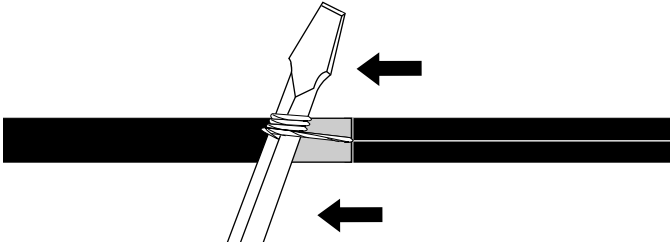

Figure 7
4.9 Pull the rip cord through the sheath to the wrap of tape (Figure 7). Unwrap the rip cord from the “handle.”